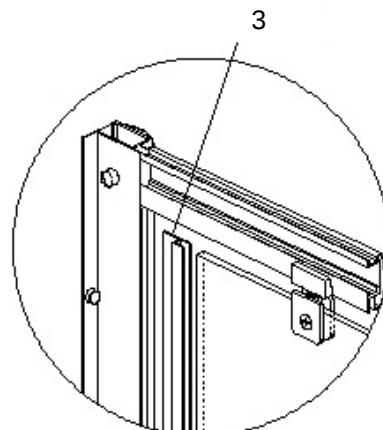

Figure 10
10. Attach the vertical anti-water strips (3) to both sides of the door (11) as shown in figure 10.